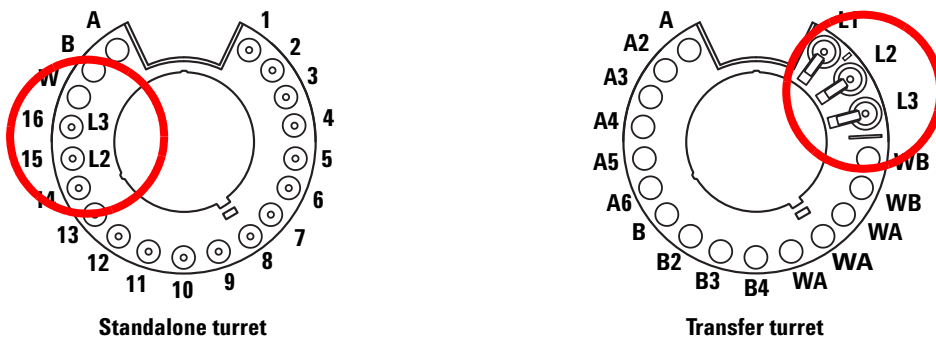

Figure 62 Turret vial locations for sandwich injections
When loading vials for sandwich injections, layer 1 (L1) can be placed in any turret position 1-14 if using a standalone turret, or in any tray position 1-150 if using a transfer turret with sample tray. The vials for layer 2 (L2) and layer 3 (L3) must be placed in turret positions **L2** and **L3** (Figure 62), respectively.
- 3 Place the solvent B vial (L3) in turret position L3. Refer to Figure 62 on page 205 for turret position information.